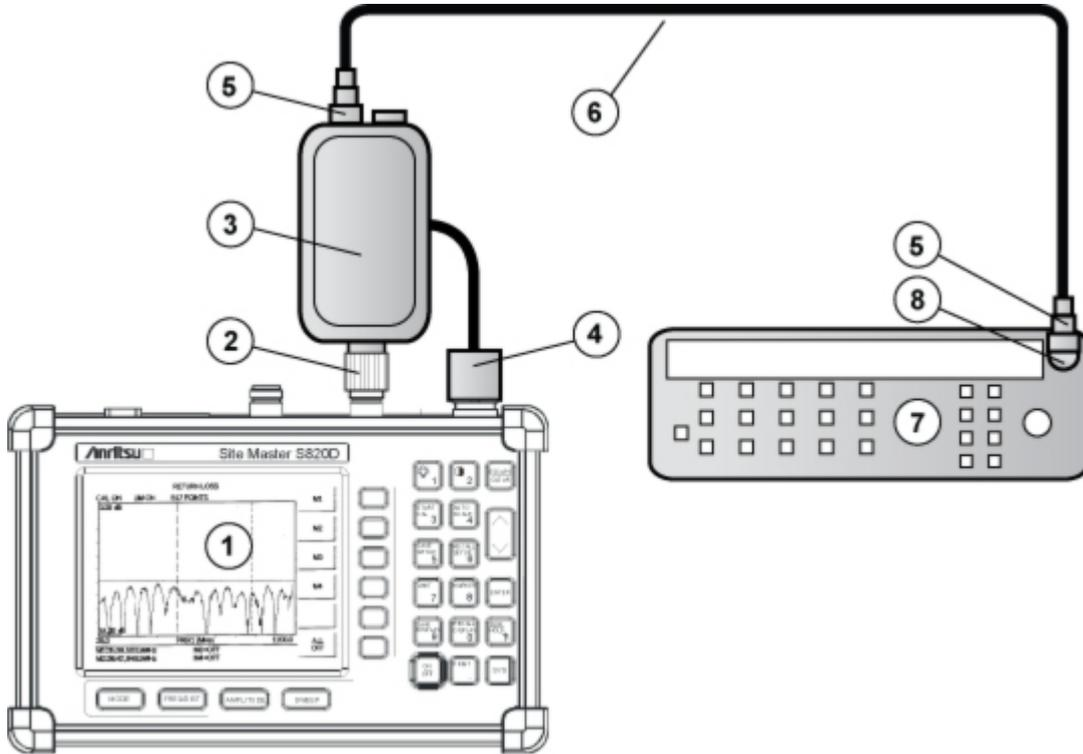

Figure 2-9. Two-Port CW Frequency Verification Connections
4. Connect the **RF-OUT X (f)** to the Anritsu MF2412B/C with appropriate adapter and BNC cable as shown in Figure 2-9 below.
Table 2-2. Callout Index for Figure 2-9, “Two-Port CW Frequency Verification Connections”